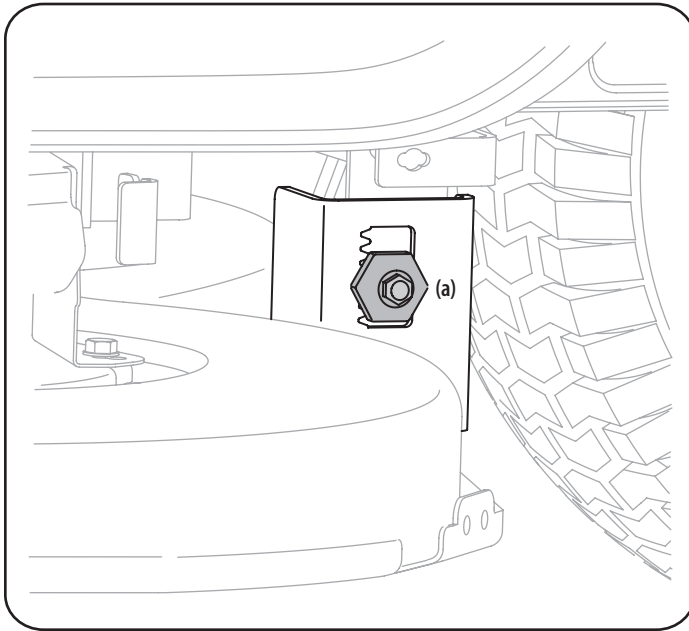

Figure 10
- Loosen, but do NOT remove, the hex cap screw (a) on the left deck hanger bracket. See Figure 10.